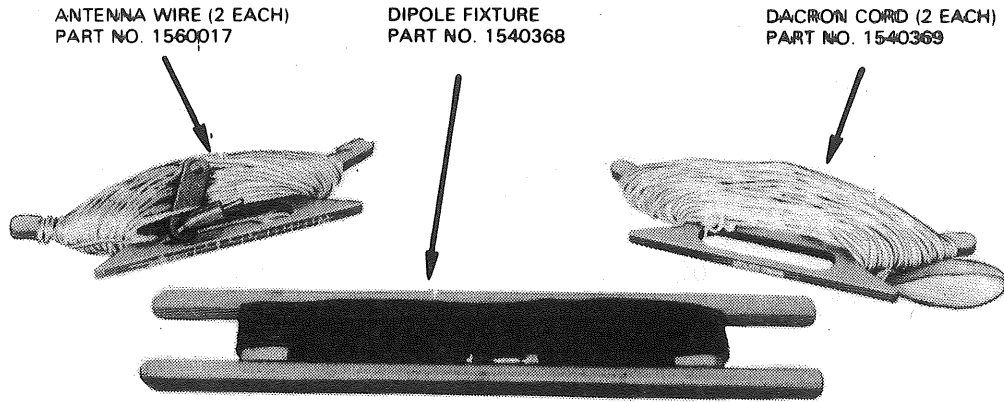

Figure 3. Antenna Kit MK-911A/PRC-74.
- a. Unwind one of the dipole antenna reels shown in figure 3 until the mark on the antenna wire matches the scale on the antenna reel as shown in figure 4.